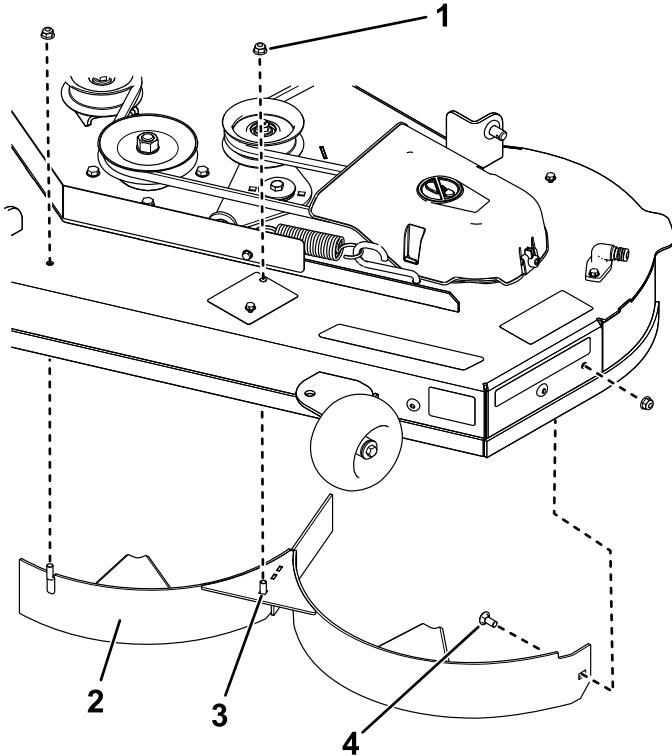

Figure 14
- Remove the 2 locknuts (5/16 inch) from the welded posts of the left baffle (Figure 14).
- Remove the carriage bolt and locknut securing the left baffle to the deck and remove the baffle (Figure 14).
- Locate the 2 bolts in loose parts and use the existing locknuts and install these fasteners into the holes shown in Figure 14 on the mower deck to prevent flying debris.